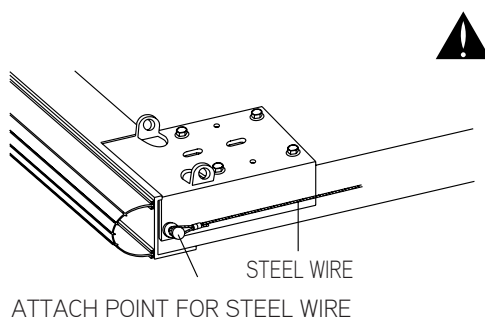
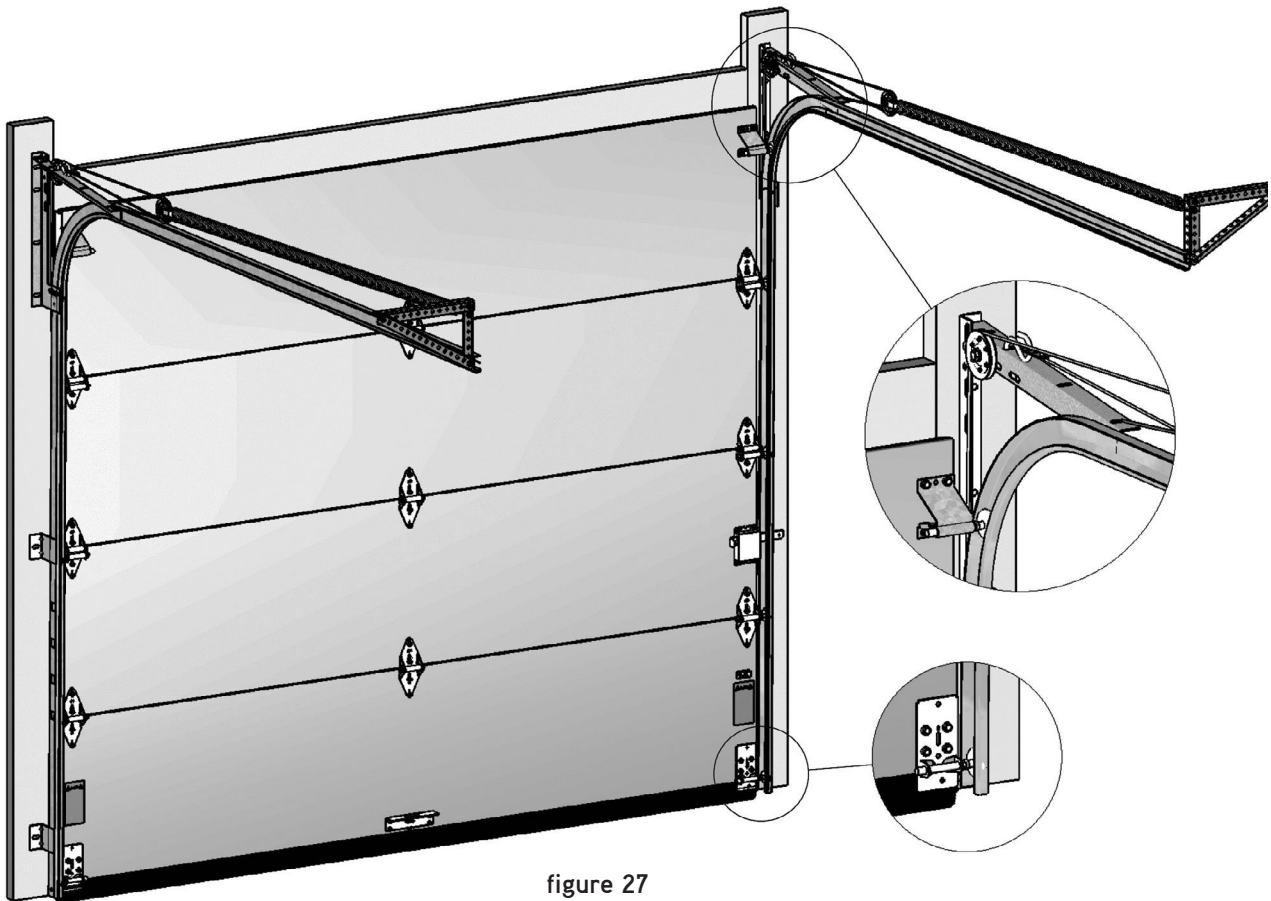

figure 25
figure 27
Once the steel cable is fastened to the bottom panel corner bracket (see Figure 25), run the other end over the pulley at the top of the vertical track, then through the pulley which is attached to the spring, and then tie it to the three-hole holding plate which is fastened to the slotted steel angle of the horizontal track with an "S" hook. Pull the steel cable in the holding plate until it is under tension. Execute the same steps for the other cable. See figure 27 for an illustration of the completed installation.
**Once the door is well-balanced, install the safety cables (offered as an option with the hardware) by running them through the middle of the springs and by fastening them carefully to the ends as shown in Figure 27.**